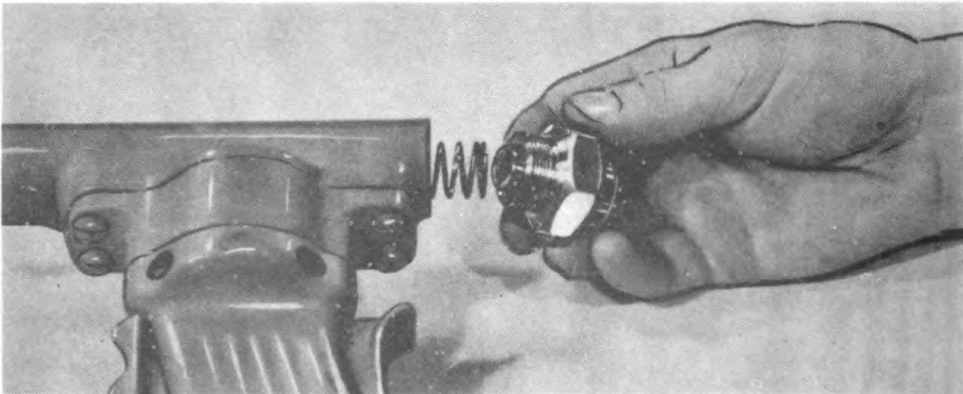

Fig 53. Installing spring retainer in fuel-valve body.
(4) Place valve spring over end of needle and install spring retainer. (Fig 53) Apply wrench very lightly to tighten spring retainer.
(5) Adjust needle (see d below), and screw plug into the spring retainer.
(6) If hose has been removed, apply anti-seize compound lightly to the threads. Screw hose into fuel-valve body. Wrench should be applied very lightly to tighten.